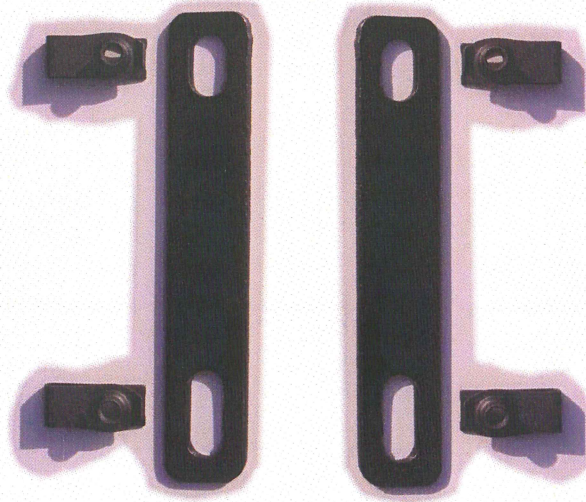

Figure 4
14. Install the heater core support bracket to the hoses as shown in Figure 4. *Do not over tighten through bolt.*